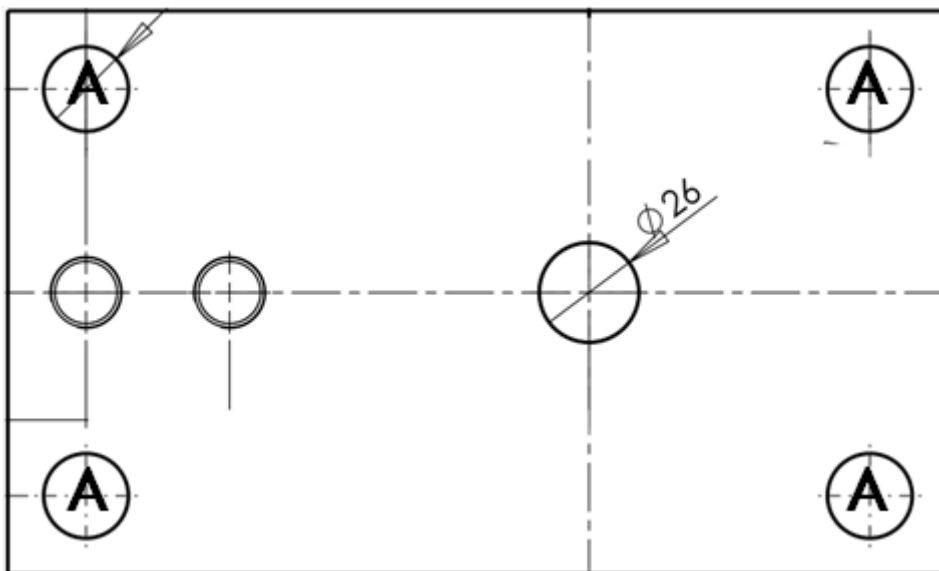

Figure 12: RSLC-10 Plate Dimensions
1. Figure 12 illustrates the RSLC-10 plate. Drill four holes into the concrete base as indicated (A).